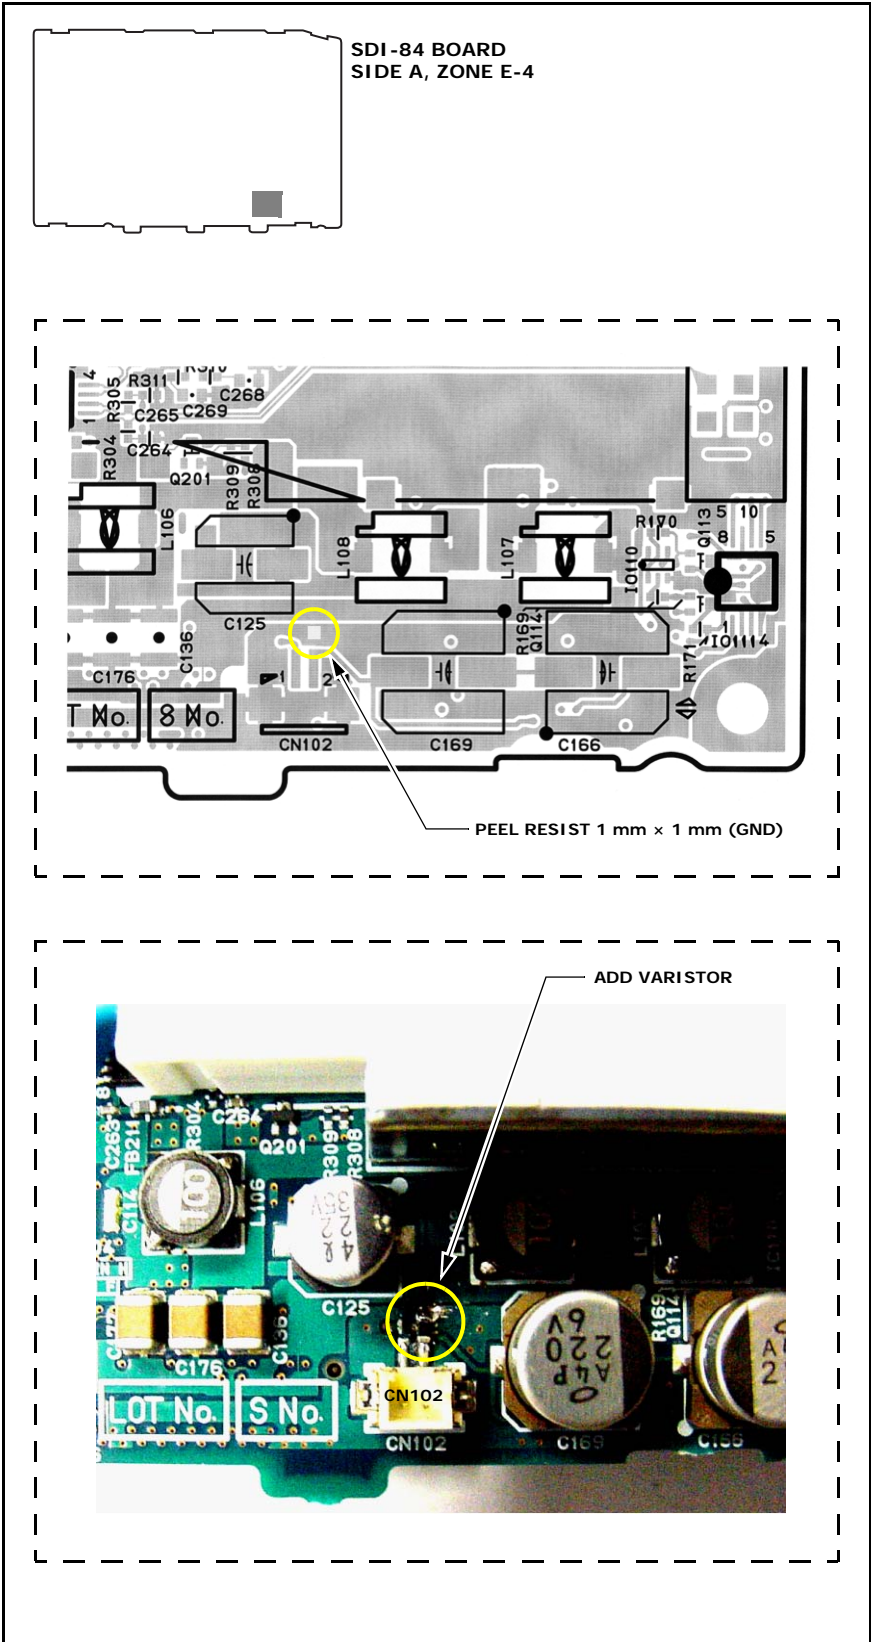

Figure 1
2. Use a utility knife to peel resist near CN102 pin 2 (side A, zone E-4) the size of 1 mm × 1 mm to create a GND area. (See Figure 1.)
3. Solder a varistor between CN102 pin 2 and GND. (See Figure 1.)